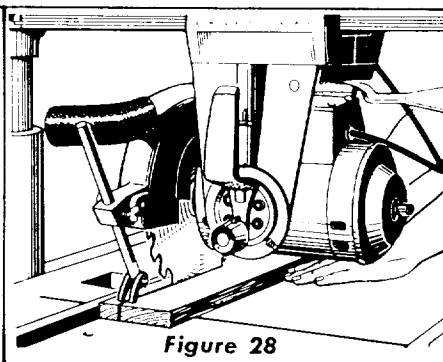

Figure 28
**IN-RIPPING**—In-rip refers to a position when the blade is between the motor and the fence and parallel to the fence. See Figure 28. To place the saw in this position, unlock the yoke, disengage the swivel latch pin and rotate the yoke 90° clockwise (viewing it from the carriage) until the swivel latch pin automatically indexes the yoke 90°. Relock the yoke. See "Adjustment of Pointers" to check accuracy of "In-Rip" scale reading. Position the motor on the radial arm until the pointer on the "In-Rip" scale indicates the desired width of the finished cut board. Tighten the carriage lock knob securely. Position the discharge elbow on the guard so that sawdust will be blown toward the rear of the saw. Turn the saw "On" and lower the radial arm until the saw blade cuts into the table top about  $\frac{1}{32}$ ". Turn the saw "Off". Now adjust the saw guard and anti-kick pawl assembly as described in the paragraph "Ripping". The board to be ripped must be fed into the saw blade from the right side of the table, therefore, the normal position for the operator is also at the right side of the table. With the left hand safely clear of the blade and holding the board to be ripped down against the table and against the face of the fence as a guide, use the right hand to feed the board into the saw. The left hand should remain stationary, serving as a guide only. As the right hand approaches the left hand, hold a push stick with the right hand to complete the cut. Do not leave a long board unsupported so that the spring of the board causes it to shift on the table. A support like that described in "Cross-Cutting" can be used to support the board behind the blade; and if the board is very long, use another support in front of the saw. Ripped boards up to  $8\frac{3}{4}$ " wide can be cut in the In-Rip position.